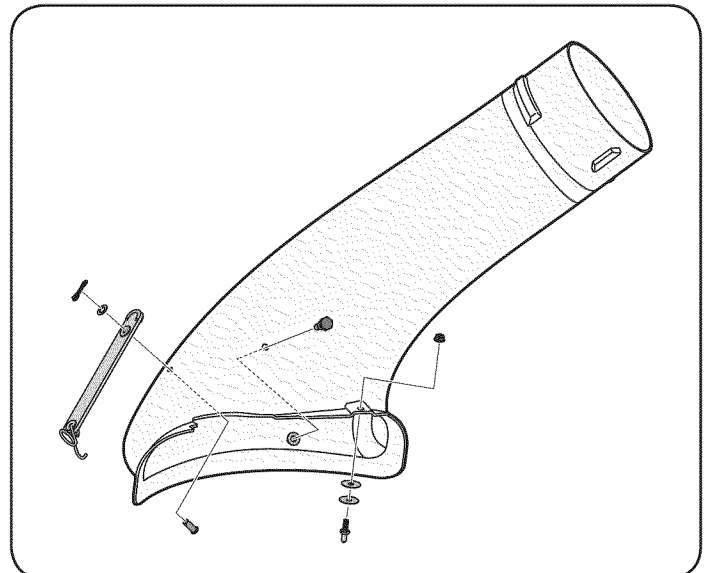

Figure 21
- Install one of the rubber chute straps (723-04008A) onto the discharge chute elbow using one of the supplied clevis pins (711-05063), washer (736-0204) and Bow-tie cotter pins (710-04040) from hardware pack 689-00092B. See Fig. 21. Secure the end of the strap utilizing the hole furthest from the end, and insert the torsion spring hook (732-04510A) from the same hardware pack into the other end of the rubber strap.
- Install the attachment pin (711-05049) and two flat washers (736-0176), from hardware pack 689-00092B, up into the chute elbow and secure with a flange lock nut (712-3027), as seen in Fig. 21.
- Install the shoulder bolt (738-0754) into the chute elbow from the top side and secure inside the chute elbow using a flange lock nut (712-04063) from the same hardware pack (689-00092B). See Fig. 21.